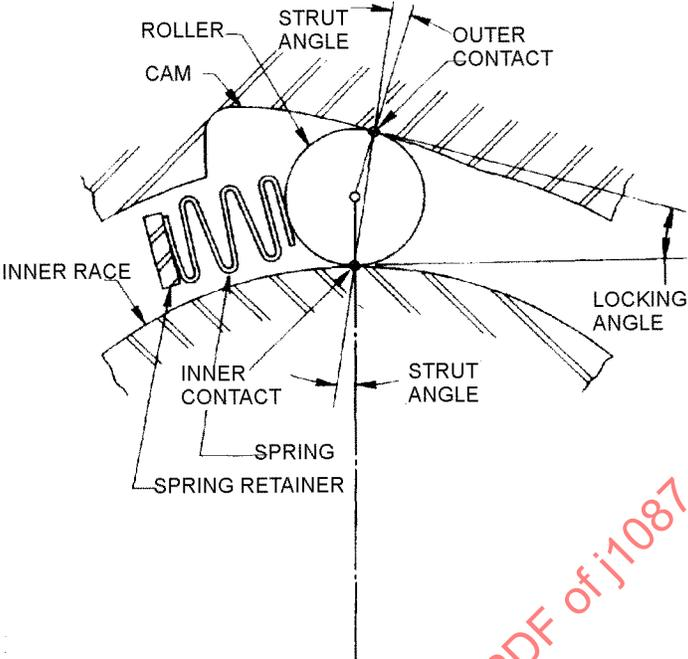

FIGURE 1—OUTER CAM TYPE LOOSE ROLLER CLUTCH DIAGRAM
- 4.2.1 **OUTER CAM CLUTCH**—A roller clutch which has the cam profile surfaces on the outer element. (See Figures 1, 2, and 3.)
4.2.4 LOOSE ROLLER CLUTCH—A roller clutch which has the rollers individually placed between the cam and race, not located by a cage. (See Figure 1, 3, and 4.)
- 4.3.1.2 *Hook Type*—A cam which has no legs, thereby forming "hooks" at the free wheeling end of the cam ramps. (See Figure 1, 2, and 4.)
- 4.3.2 RACE—That element of the clutch providing the cylindrical surface through which the rollers transmit torque. (See Figure 1, 2, 3, and 4.)
- 4.3.3 ROLLER—The cylindrical locking element of the clutch. Several are usually used in each clutch. (See Figures 1, 2, 3, and 4.)
- 4.3.4 ENERGIZING SPRING—A spring used to actuate the roller into contact with the cam and race. (See Figures 1, 2, 3, and 4.)
- 4.3.6 SPRING RETAINER—That element which locates and provides reaction for the spring in loose roller clutches. (See Figure 1 and 4.)
- 4.4.1 CAM OR LOCKING ANGLE—The angle between lines drawn tangent to the cam and race at the contact points of the roller (equal to twice the strut angle). (See Figures 1 and 4.)
- 4.4.2 STRUT ANGLE—The angle between a line connecting the contact points of the roller at the cam and race and a radial line from the roller center to either contact point. (See Figures 1 and 4.)